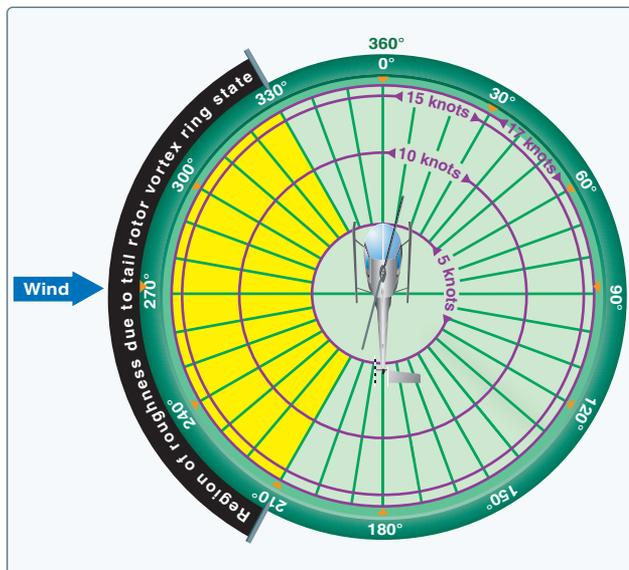

Figure 11-13. Tail rotor vortex ring state.
- c. Tail rotor vortex ring state ( $210^\circ$  to  $330^\circ$ ). [Figure 11-13] Winds within this region will result in the development of the vortex ring state of the tail rotor.
Winds within this region cause a tail rotor vortex ring state to develop. [Figure 11-13] The result is a nonuniform, unsteady flow into the tail rotor. The vortex ring state causes tail rotor thrust variations, which result in yaw deviations. The net effect of the unsteady flow is an oscillation of tail rotor thrust. Rapid and continuous pedal movements are necessary to compensate for the rapid changes in tail rotor thrust when hovering in a left crosswind. Maintaining a precise heading in this region is difficult, but this characteristic presents no significant problem unless corrective action is delayed. However, high pedal workload, lack of concentration, and overcontrolling can lead to LTE.